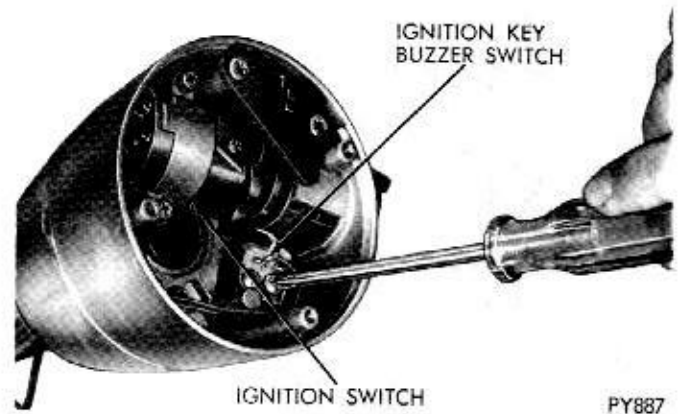

Fig. 8—Ignition Key Buzzer Switch
(2) Remove two screws and lift out buzzer switch (Fig. 8).
(11) Feed buzzer switch wires behind wiring post and down through space between housing and jacket. Position switch in housing and tighten two mounting screws (Fig. 8).